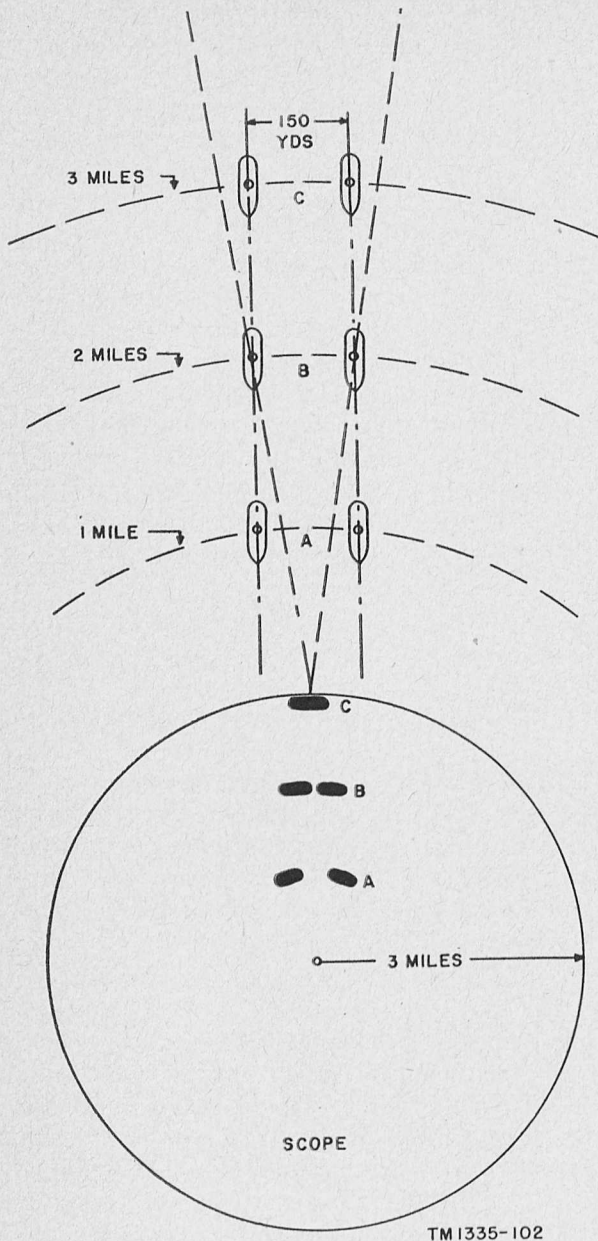

Figure 53. Bearing resolution.
a. *Bearing Resolution.* The ability of a radar set to separate two closely spaced targets at the same range is a function of the horizontal width of the transmitted beam. The horizontal width of the beam of Radar Set AN/SPN-11(*) is 1.9° at half-power points. For purposes of discussion, assume that the beam width is 2° and refer to figure 53 which shows two targets at the same range with different spacings (bearings).
- (1) Point A shows two targets, 150 yards apart and 1-mile from the vessel. At a distance of 1 mile, the span of a 2° beam is approximately 70 yards. Since the two targets are separated by more than the width of the beam, the target echoes appear as separate echoes on the PPI.
- (2) Point B shows two targets, 150 yards
- (3) Point C shows two targets, 150 yards apart and 3 miles from the vessel. At a distance of 3 miles, the span of a 2° beam is about 210 yards. Since the span of the beam is greater than the separation between the targets, the target echoes merge into a single echo on the PPI.
- (4) Examination of figure 53 shows that as the range increases, the bearing resolution decreases. The following table gives the approximate span of a 2° beam at various ranges from the radar-equipped vessel: